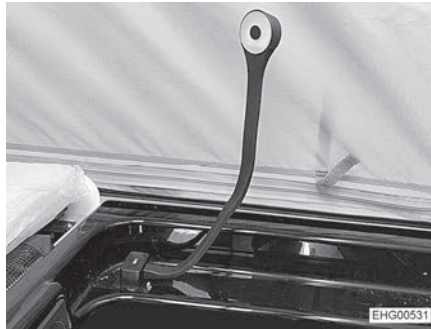
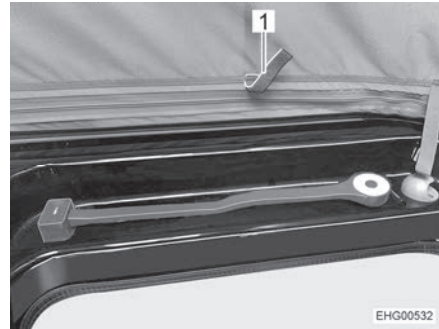

Fig. 65 Goose neck lamp, operating position
Fig. 66 Goose neck lamp, transport position
- Return goose neck lamp from operating position (Fig. 65) to transport position (Fig. 66).
- Pull in the canvas by the tabs (Fig. 66,1) provided for this purpose.